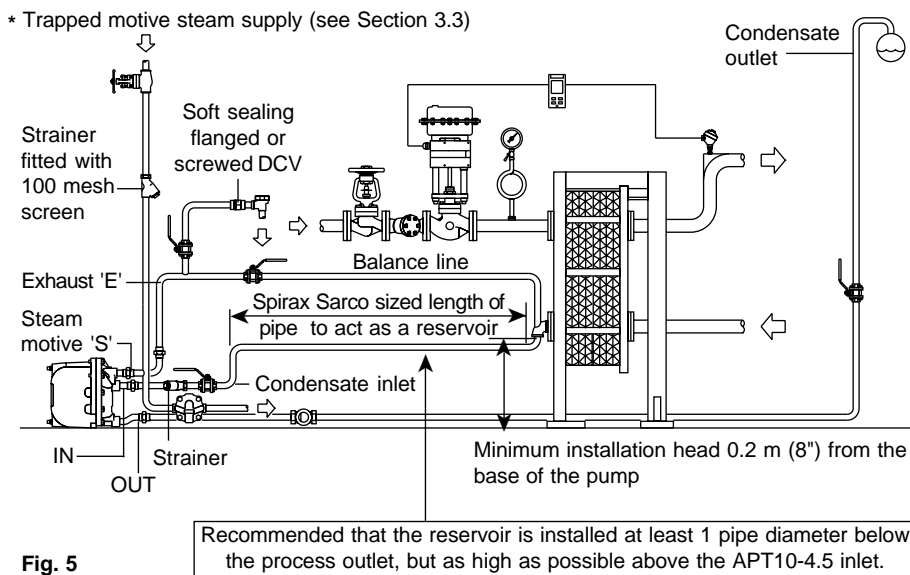

Fig. 5
To prevent condensate backing up into the equipment being drained, it is recommended that the inlet pipework is sufficiently sized to accumulate condensate during the pump's discharge cycle. Generally a length and diameter of pipe to accommodate 2.1 litres of condensate will be sufficient. It is recommended this condensate reservoir is situated at least 1 pipe diameter below the process outlet but as high as possible above the APT10-4.5 inlet. It is essential that a Spirax Sarco Y-type strainer with a maximum 0.8 mm perforation screen size is fitted at the condensate inlet of the APT10-4.5, as shown in Fig. 5.
The APT10-4.5 has four connection ports. The DN20 (¾") port marked (IN) should be connected to the outlet of the equipment being drained. The DN20 (¾") port marked (OUT) should be connected to the condensate return line. A flow arrow indicates the correct direction of flow. The DN15 (½") port marked (S) - steam should be connected to a trapped motive steam supply. * **It is important to ensure this line is drained of condensate at all times using a Spirax Sarco steam trap and filtered using a 100 mesh strainer (see Fig. 5).** The screwed DN15 (½") port marked (E) - exhaust should be balanced back as close as possible to the condensate outlet of the equipment. This balance line must always be connected to the top of the condensate pipe; as shown in Fig. 5. **Note:** The APT10-4.5 can be secured to a level stable surface using the 2 x Ø12 mm holes drilled into the base of the cover.